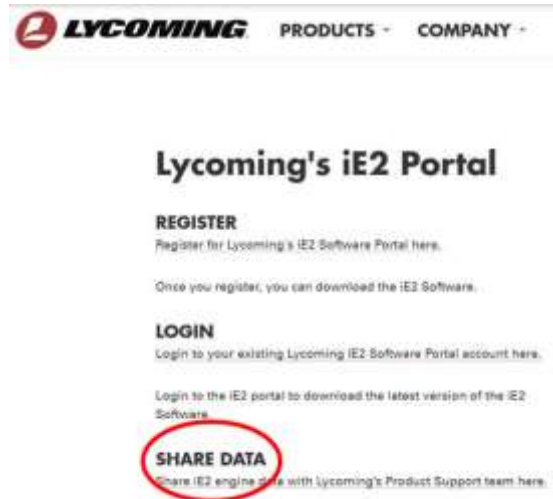

Figure C-35
2. Open Lycoming's iE2 Portal (Figure C-35) and click on **SHARE DATA**.